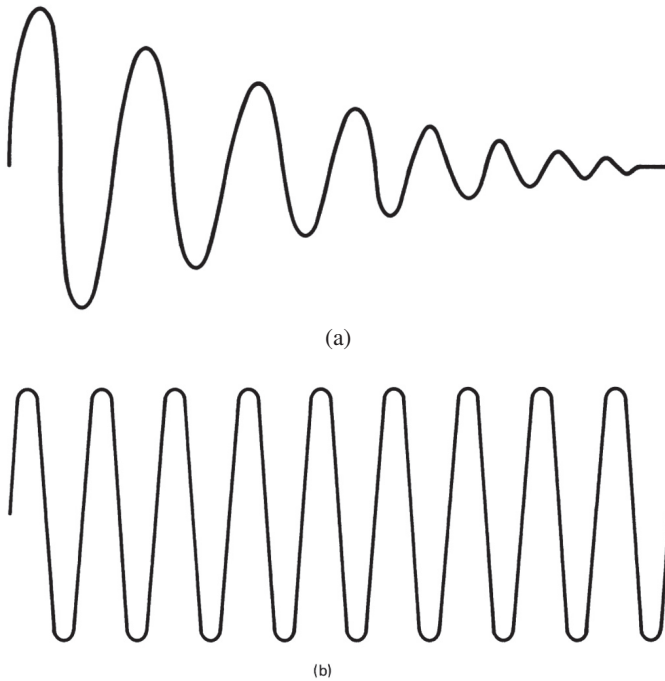

Figure 20.4 Wave types. (a) Damped oscillatory wave. (b) Continuous wave.
where f_r is in hertz, L is the inductance in henries, and C is the capacitance in farads. This formula is extremely important because it applies to all LC sine-wave oscillators. Resonance occurs when the inductive reactance (X_L) equals the capacitive reactance (X_C). A tank circuit will oscillate at this frequency for a rather long period of time without a great deal of circuit opposition. This condition is illustrated in **Figure 20.4**.
of operation. Take a look at **Figure 20.4**. Note that **Figure 20.4(a)** shows the resulting wave of a tank circuit. Note the gradual decrease in signal amplitude. This is called a **damped sine wave**. A tank circuit produces a wave of this type.
The oscillations of a tank circuit could be made continuous if energy were periodically added to the circuit. The added energy would restore that lost by the circuit through heat. The added energy must be in step with the circulating tank energy. If the two are additive, the circulating signal will have a continuous amplitude. **Figure 20.4(b)** shows the **continuous wave (CW)** of an energized tank circuit.